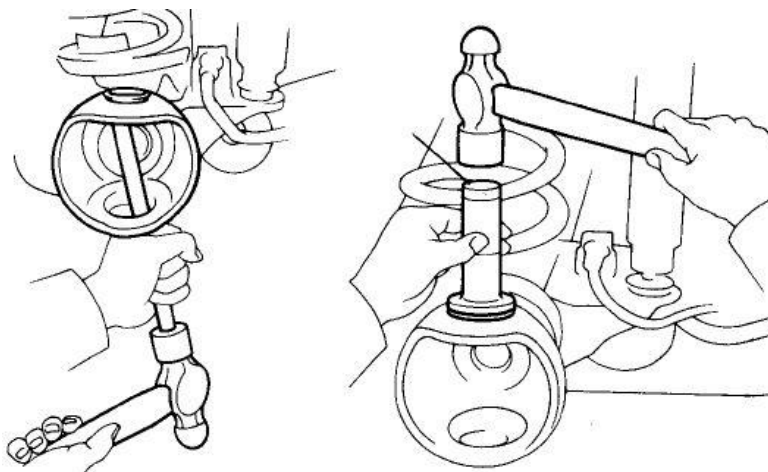

Fig 10
13. Install the supplied new king-pin bearing caps and bearing plugs with a suitable driver. Refer to fig 10.